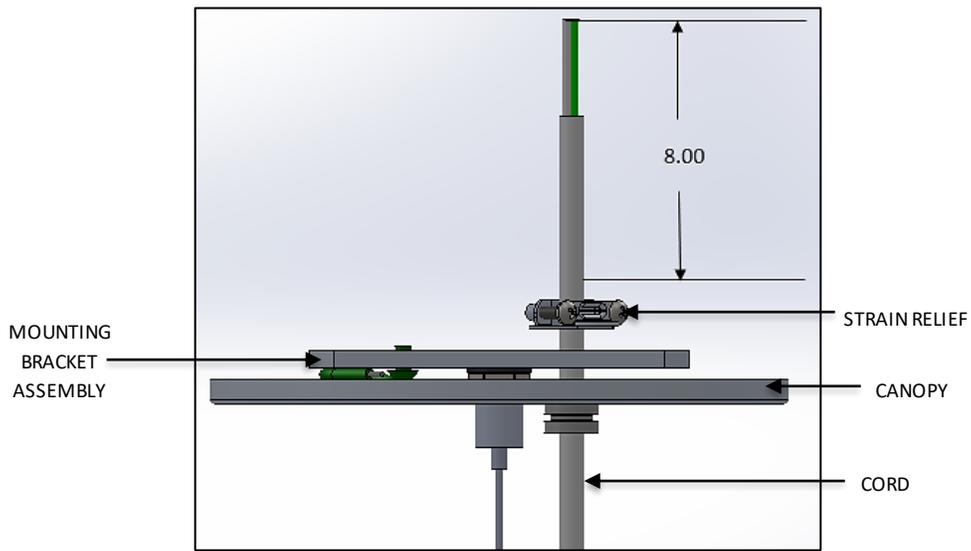

FIG. 33 – CORD INSTALLATION DETAIL
- Make sure to leave minimum of 8.00" past the top of the STRAIN RELIEF for making wire connections to driver as shown below in FIG 33.